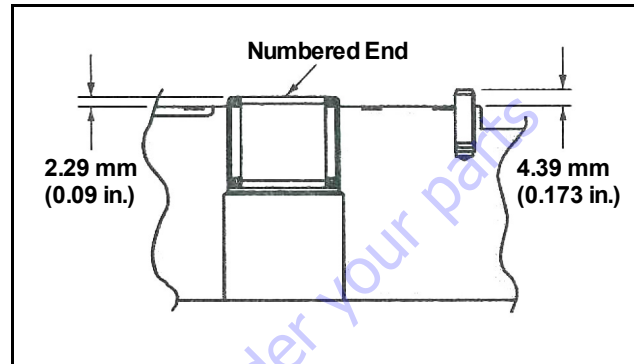

Figure 5-201. Endcover Inspection
- Check the bearing (press fit) in endcover. If needles remain in cage, move freely, and setting is at the dimension shown in Figure 5-201. removal not required.
- Check roll pin in endcover. If tight and set to the dimension shown in Figure 5-201. removal not required.